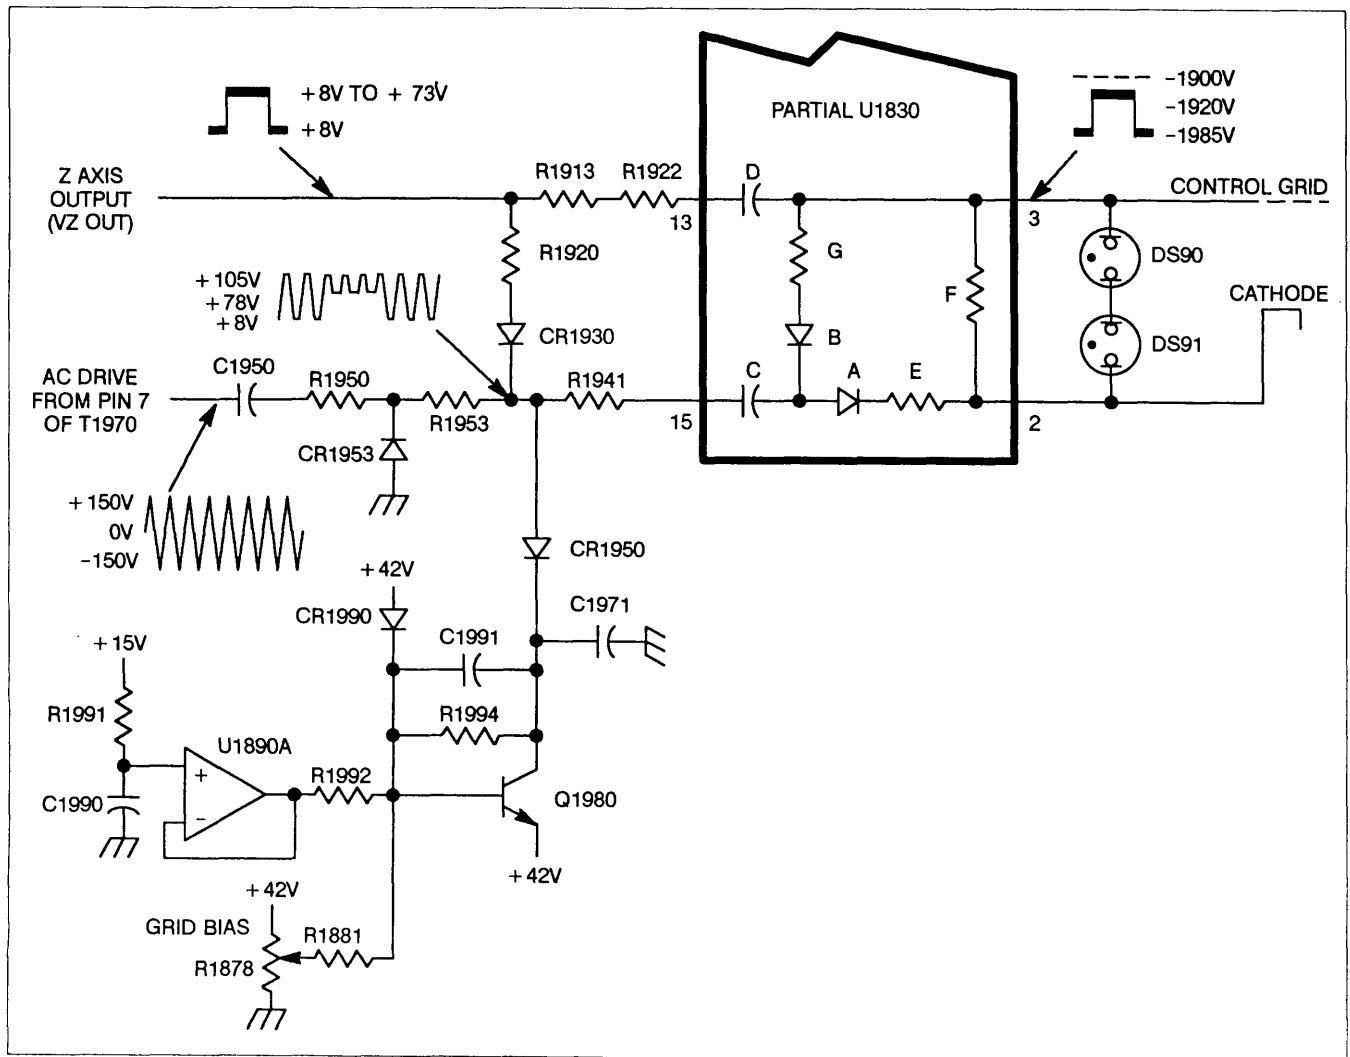

Figure 3-8. DC restorer circuit.
The DC Restorer circuit (fig. 3-8) operates by impressing the CRT grid bias setting and the Z-Axis drive signal on an AC voltage waveform. The shaped AC waveform is then coupled to the CRT control grid through a coupling capacitor that restores the DC components of the signal.
**DC RESTORATION.** The DC Restorer circuit in the High Voltage Module is referenced to the CRT cathode voltage via a connection within U1830. Capacitor C (in fig. 3-8), connected to pin 15 of U1830, initially charges to a level determined by the difference between the Z-Axis signal level and the CRT cathode potential. The Z-Axis signal sets the level on the positive plate of capacitor C through R1920, CR1930, and R1941; the level on the negative plate is set by the CRT cathode voltage through resistor E and diode A. Capacitor D is charged to a similar DC level through resistors F, R1922, and R1913.